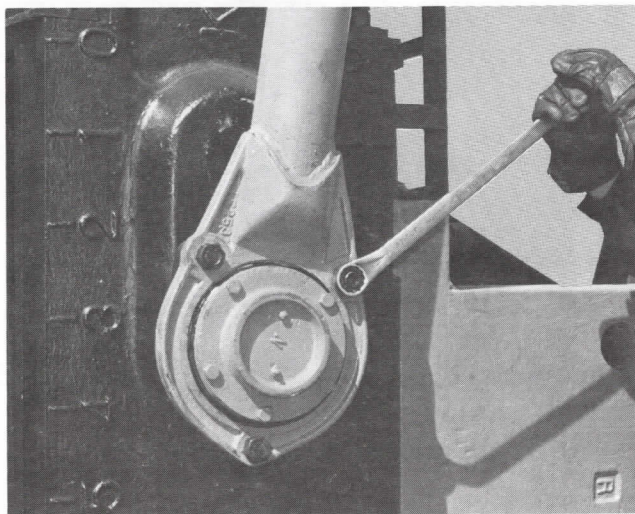

Fig. 18
23. Install pitman banjos on crank wrist pin bearing housings. Tighten bolts evenly leaving same space between banjo flange and bearing housing ears all around, Fig. 18.